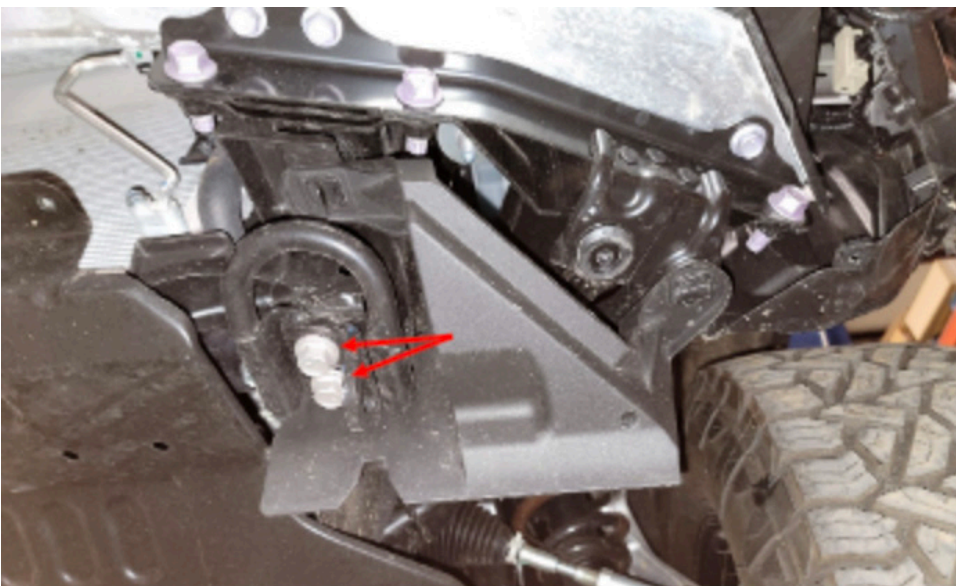

Figure 13.
12. Remove the OR tow hooks using a 17mm socket to remove the 2x bolts. Set bolts aside for bumper install. Figure 13.